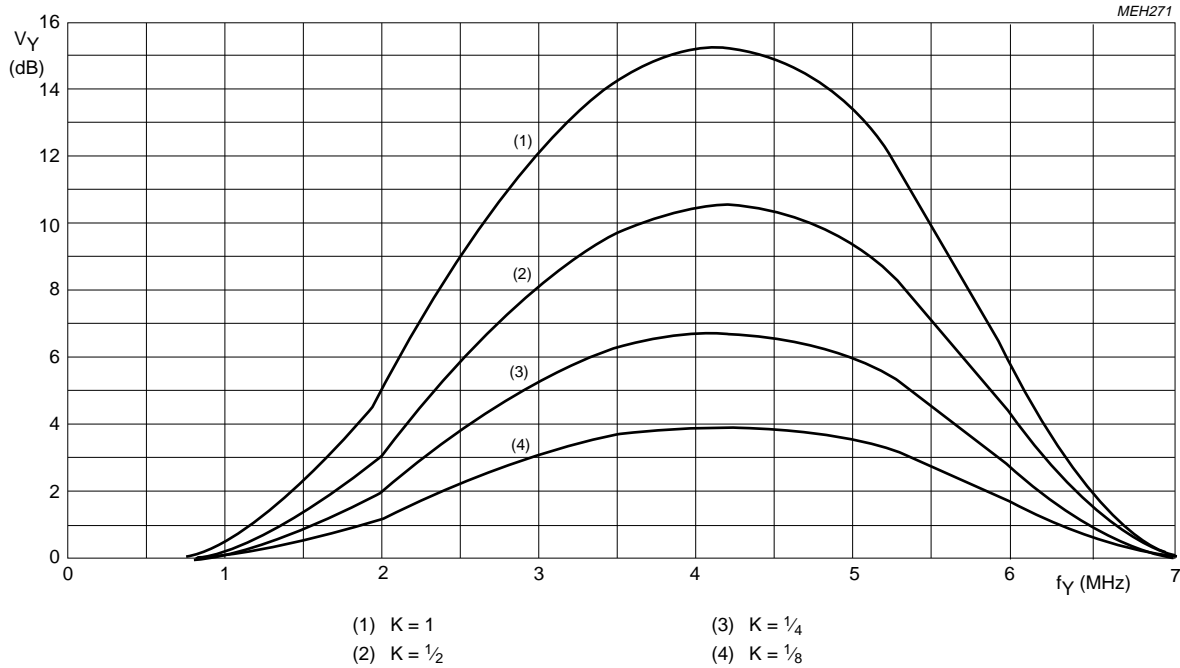

Fig.5 Peaking frequency response with I²C-bus control bits BP1 = 0; BP0 = 0 and BFB = 0.
YUV-bus timing (pins 4 to 11 and 14 to 21) (see Fig.5)
MC timing (pin 24) (see Fig.5)
1. YUV-bus data is read at MC = HIGH (pin 24) clocked with LLC (see Fig.5); data is read only with every second rising edge of LLC when CREF = 1/2 LLC on pin 24.